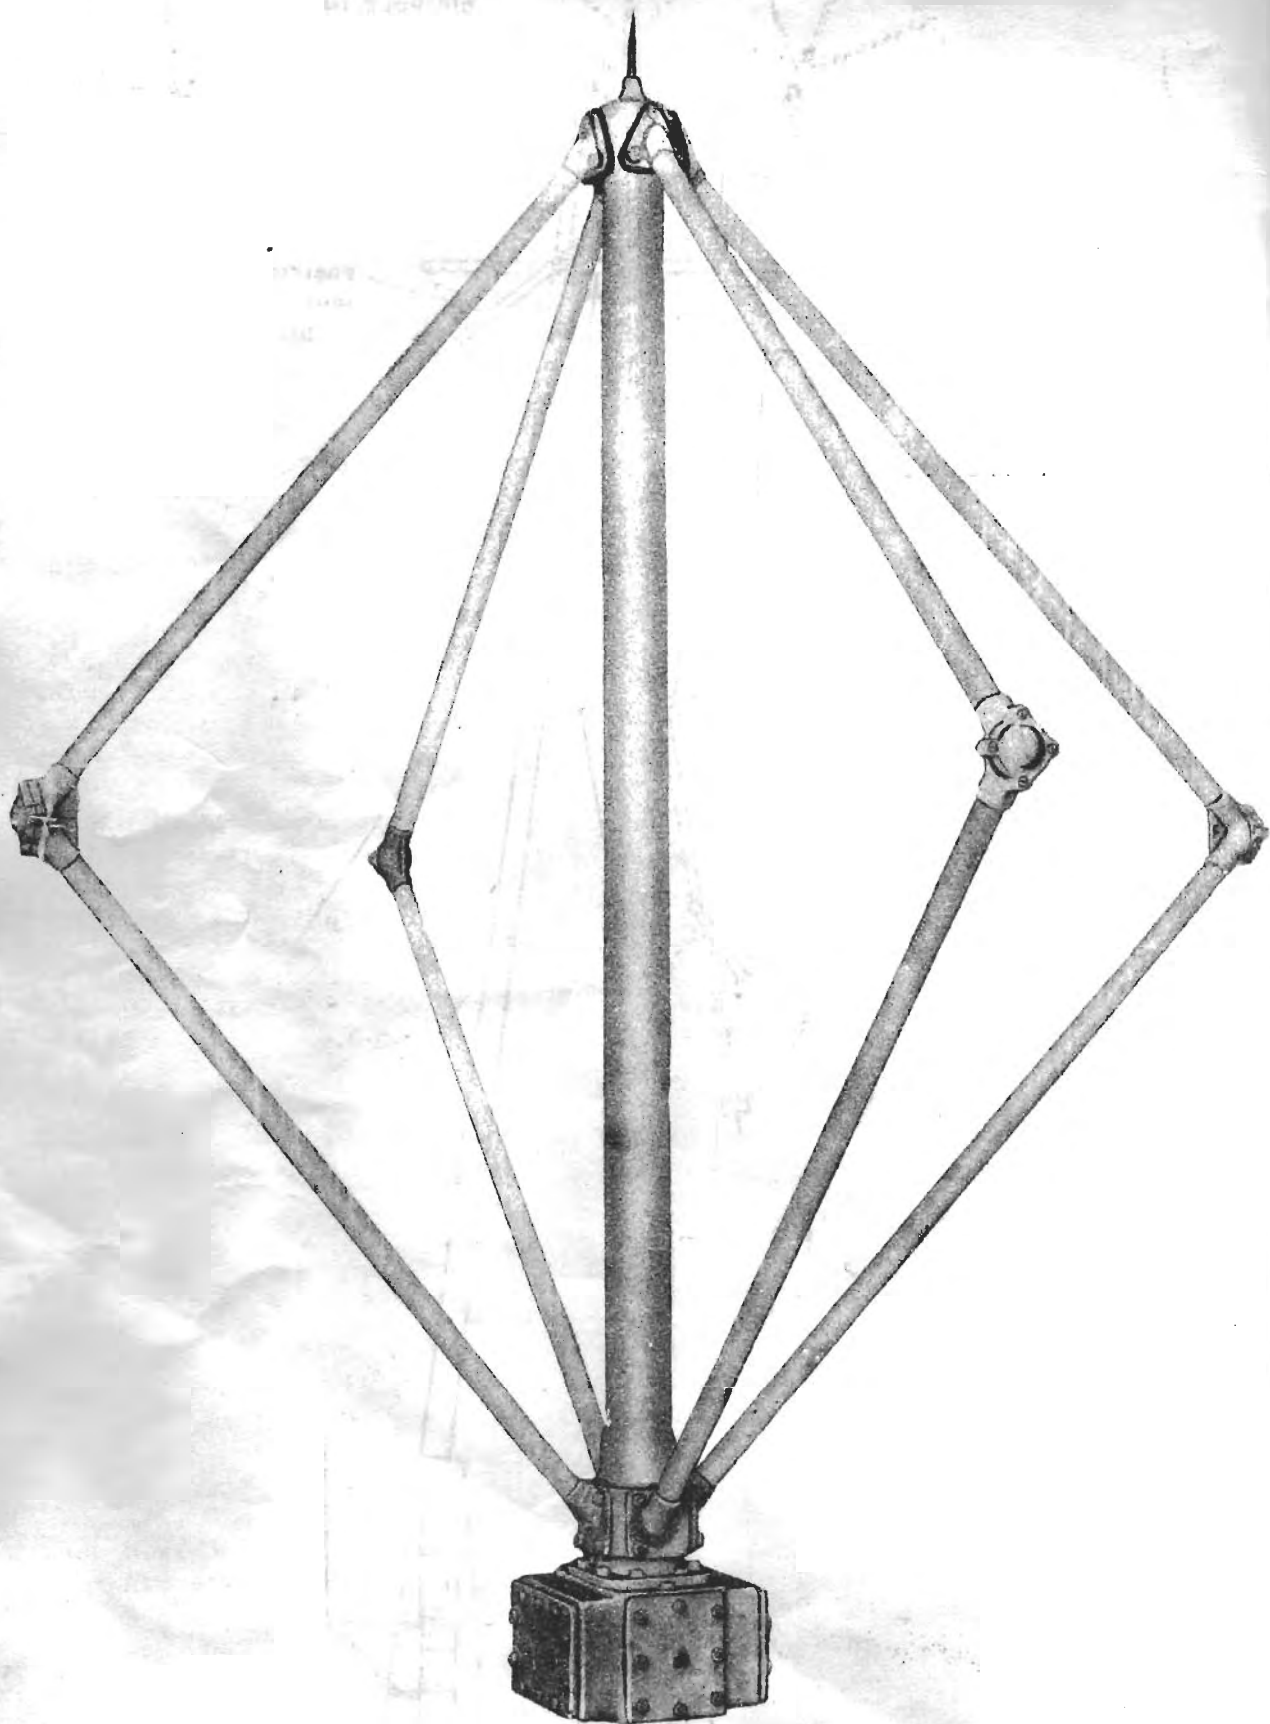

FIG. 3.
1. FRAME COIL S16. (See Fig. 3). The loops of the frame coil S16 are three feet square and each consists of two turns of rubber insulated cable 12/.01 inch conductor wound on loaded ebonite spacers inside a one-inch steel tube framework. The four tubes enclosing the frame coil windings are interrupted near the top by moulded ebonite insulators. This arrangement prevents induced currents from circulating round the metal frame. THE INSULATORS MUST BE KEPT CLEAN AND ON NO ACCOUNT PAINTED OVER.